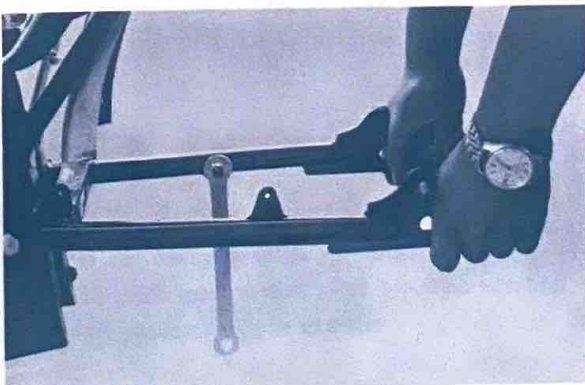

Fig 4-8-3
- 1) Check the play of the rear swing arm by shaking it as show in Fig. 4-8-3, with the rear swing arm installed.